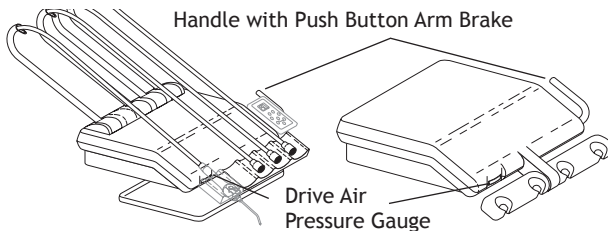

Figure 2. Drive Air Pressure Gauge
The drive air pressure gauge (see Figure 2) indicates, in psi and kg/cm2, the drive air pressure to the active handpiece.
The arm is braked against vertical movement until you press the arm brake button (see Figure 2 on page 1). You then are able to position the control head. Releasing the arm brake button locks the control head in place.
2. Locate the drive air gauge on the front of the control head (see Figure 2 on page 1).